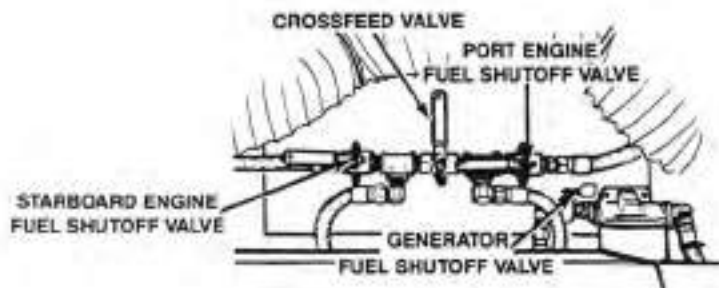
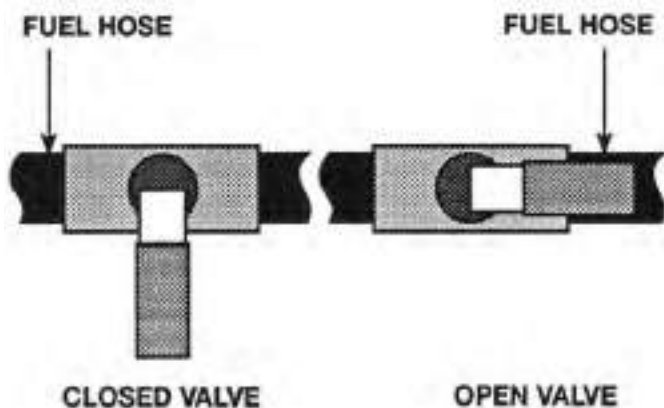
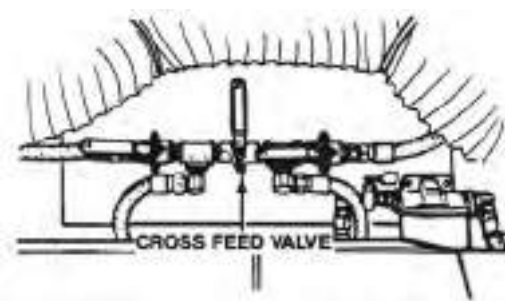

Figure 4-5 – Fuel Shutoff Valves
Figure 4-6 – Fuel Valve Position
Figure 4-10 – Fuel Valves
16. Open fuel shutoff valves for the engines and the generator. (See **Figure 4-5**). Valve is open when handle is in line with hose. (See **Figure 4-6**) If your yacht has a cross feed valve, make sure it is closed.
Note: Depending on how your yacht is equipped, valves may be positioned differently than shown in **Figure 4-5**.
8. Make sure fuel shutoff valves in the fuel lines are open. Valve is open when handle is in line with hose. (See **Figures 4-5** and **4-6**.) If your yacht has a crossfeed valve, make sure it is closed. **Figure 4-10** (page 4.8) shows a crossfeed valve.
For yachts with two fuel tanks, providing fuel to both engines from one tank is possible. This practice is called cross feeding. Close the fuel supply line valve for the empty tank. Open the crossfeed valve between the two supply valves. **Figure 4-10** shows the crossfeed valve.